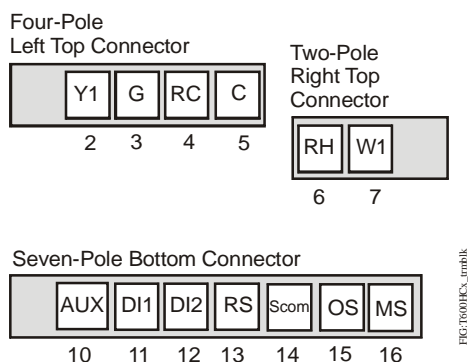

Figure 5: Terminal Blocks
1. Strip the ends of each wire a 1/4 in. (6 mm) and connect them to the appropriate screw terminals as indicated in Figure 5.
Table 1: Terminal Identification (See Figure 5.)